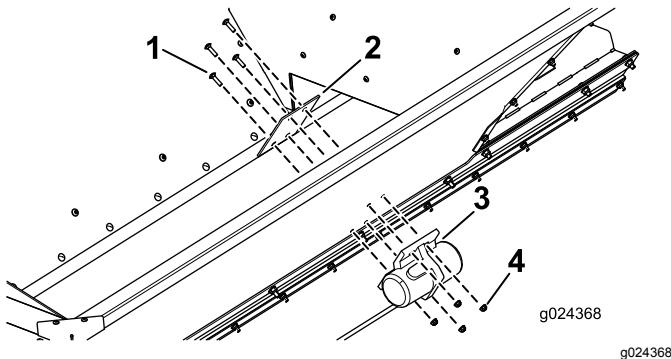

Figure 13
2. Secure the mounting plate and the vibrator to the vehicle using the 4 carriage bolts and 4 nuts as shown in Figure 13.